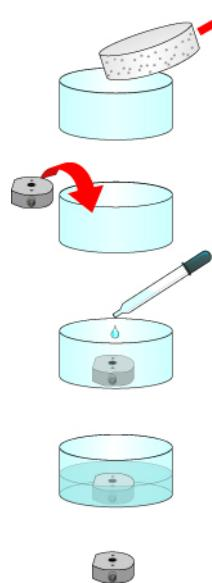

Figure 5-38. Soaking the electrode
7. Remove the thumbscrew (1) to release the plate that secures the electrodes and the block containing the electrode. (See Figure 5-38.)